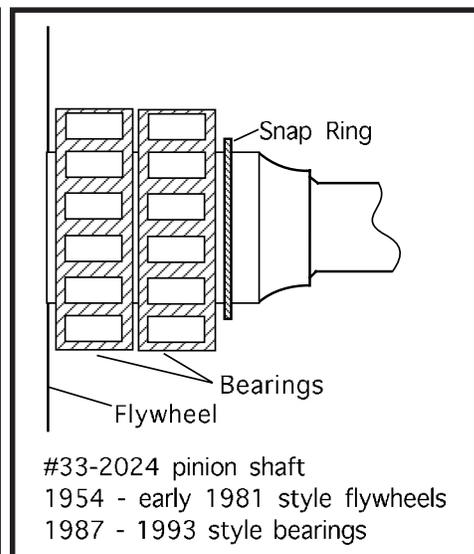

Figure 4
1. 1954 to Early 1981 stock flywheels or S&S SE or L style flywheels and S&S pinion shaft #33-2024 - No thrust washers are normally used. Typical bearing arrangement - bearings against flywheel and snap ring. **See Figure 4.**